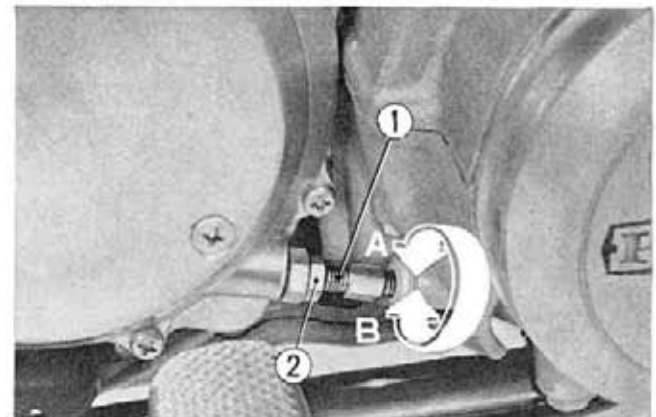

Fig. 19-12 ① Clutch cable adjusting bolt
- b. Turn the clutch cable adjusting bolt located at the clutch housing, in the direction ① to loosen the clutch cable. (Fig. 19-12)
- d. Turn the clutch cable adjusting bolt located at the clutch housing lower right side of the engine in the ② direction so that there is approximately $3/4$ of free play at the clutch lever; then tighten the lock nut. (Fig. 19-12)
- (3) The nominal clutch lever free play is 0.4-1.0 in (10~25 mm) measured at lever end before the clutch starts to disengage.